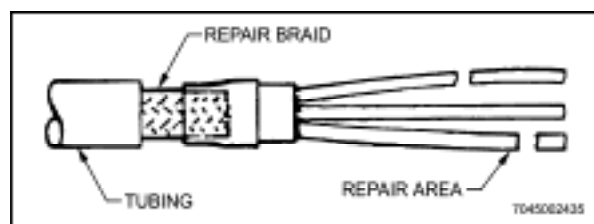

Figure 5-21 Tubing and Braid Located on Cable End
- j. Slide tubing and braid from shield repair kit, over one cable end (Figure 5-21). Tape tubing and braid away from repair area.